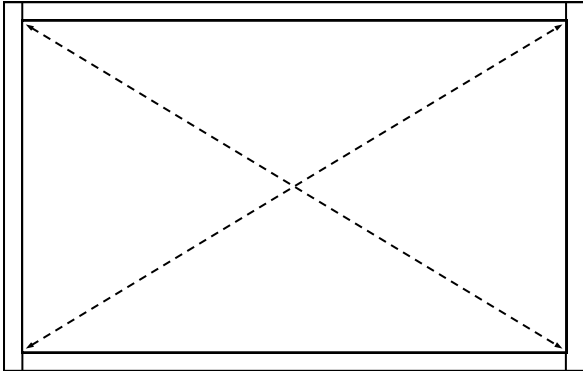

**fig. 4**
**Step 2a:** Rivet Clear Panel Brace to the Clear Panel, pre-drill holes from underneath then rivet down from on top using sealed rivets with Steel Washers. For riveting detail see **fig. 4**.